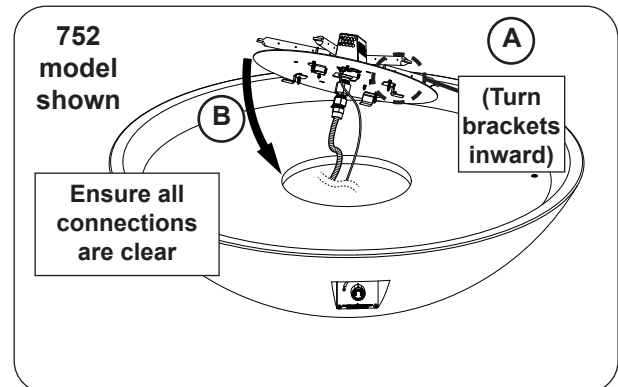

Fig. 30-2 Insert burner assembly (if applicable)
1. Ensure that the four burner brackets are turned inward, then insert the burner assembly (see Fig. 30-2, A-B).